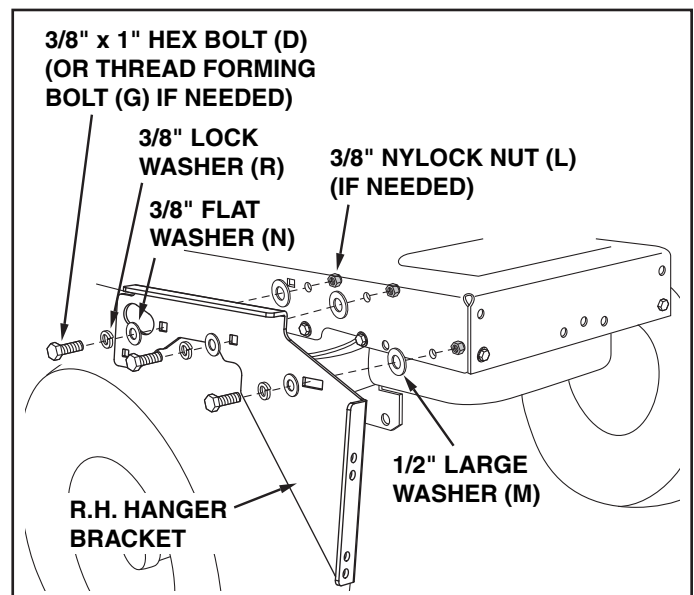

FIGURE 8
STEP 2: (SEE FIGURE 8)
- Attach the R.H. hanger bracket to the three holes shown on the side of the tractor frame using three 3/8" x 1" hex bolts (D), 3/8" lock washers (R), 3/8" flat washers (N) and 1/2" large washers (M). Use 3/8" nylock nuts (L) on inside of frame if bolts insert freely into holes. **Tighten.**